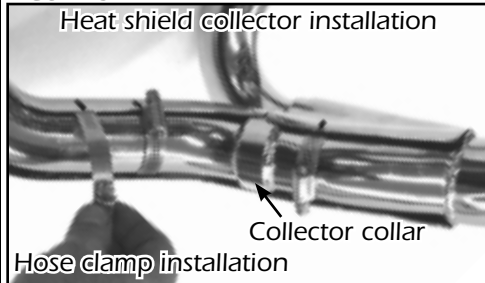

FIGURE 6
4. Install front heat shield and collector heat shield using #20 hose clamps (supplied) by feeding tail end of clamps into heat shield clips (Figure 5). Note direction of clamp screw heads (Figure 6). Screw head must be accessible when system is installed on motorcycle for adjustment purposes. Do not tighten at this time.